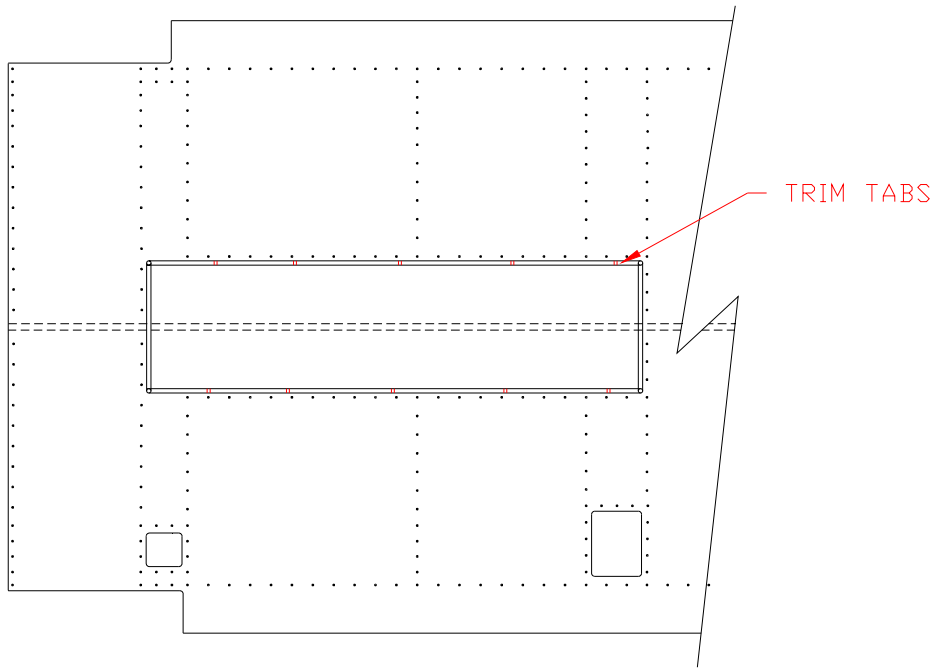

Figure 3.5.1
- 1) Cut out the Elevator Trim Skin along the tabs as in figure 3.5.1.